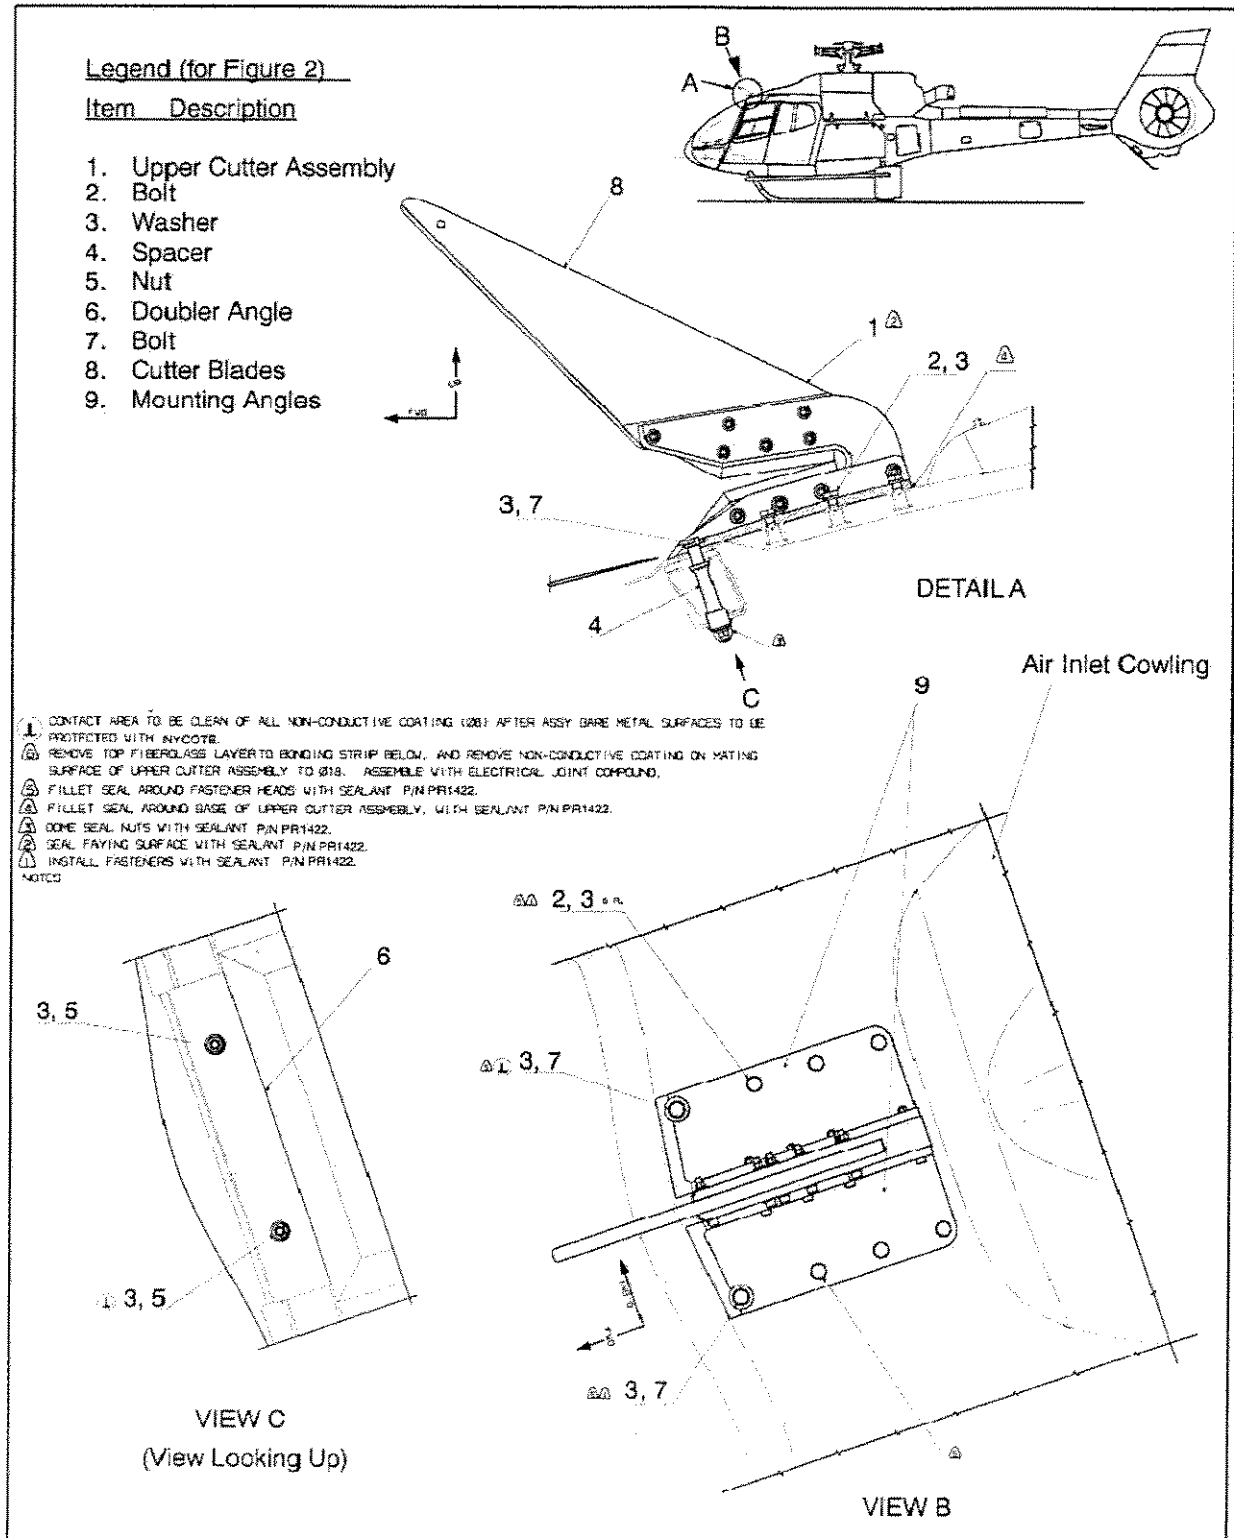
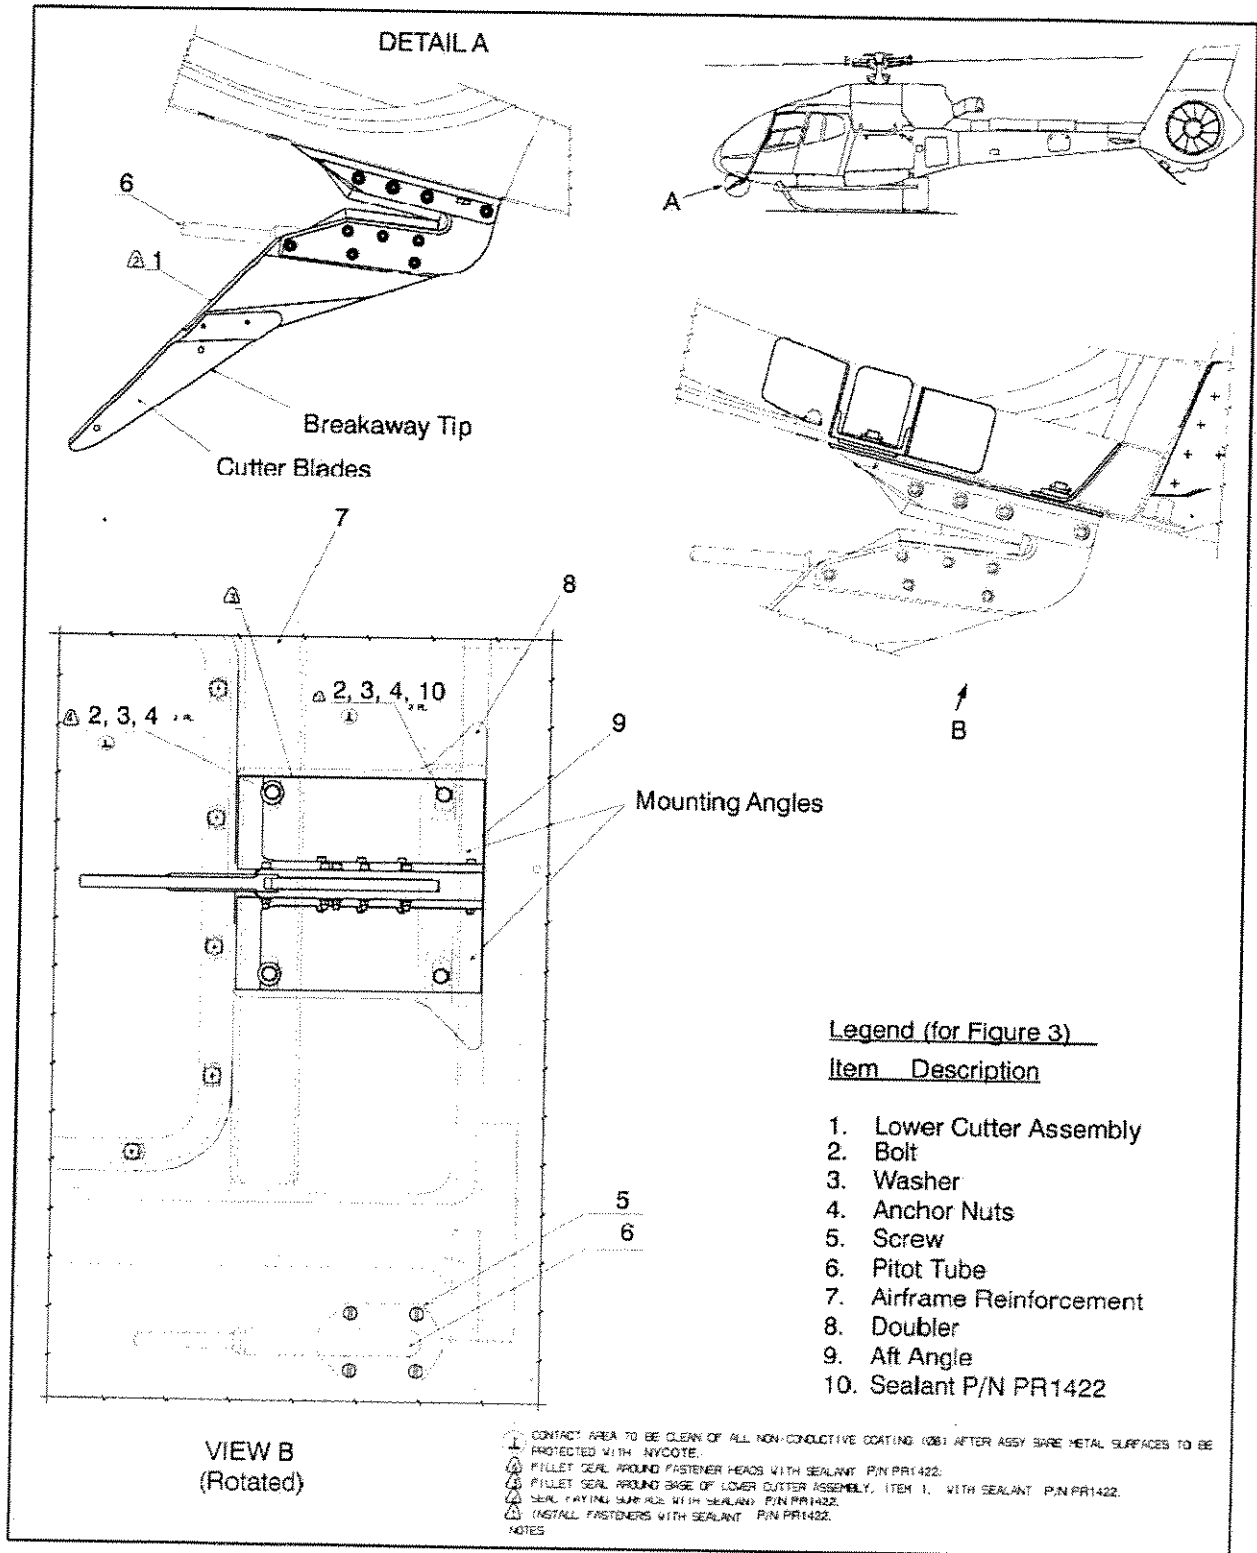

Figure 2 Upper Cutter Detachable Provisions
Figure 3 Lower Cutter Detachable Provisions
Refer to Figures 2, Upper Cutter Detachable Provisions, and Figure 3, Lower Cutter Detachable Provisions, for component removal and replacement.
- 1) Upper Cutter (Refer to Figure 2)
- a) Remove bolts (2) (6 places), and washers (3) (6 places) from the cabin roof.
- b) Remove FWD bolts (7) (2 places) and washers (3) (2 places) from the cabin roof. Remove nuts (5) (2 places), washers (3) (2 places) and spacers (4) (2 places) from between the roof and the carbon beam.
- c) Carefully remove the sealing compound and the upper cutter assembly (1).
- 2) Lower Cutter (Refer to Figure 3)
- a) Remove bolts (2) (4 places) and washers (3) (4 places).
- b) Carefully remove the sealing compound and the lower assembly cutter (1).
- b) Secure upper cutter assembly (1) into place using bolts (2) (6 places), and washers (3) (6 places) coated with sealant (P/N PR1422).
- c) Place spacer (4) (2 places) into carbon beam.
- d) Secure LHS using bolt (7) (1 place), washer (3) (2 places), and nut (5) (1 place). Dome seal nuts with sealant (P/N PR1422).
- e) Secure RHS using bolt (7) (1 place), washer (3) (2 places), and nut (5) (1 place). Dome seal nuts with sealant (P/N PR1244).
- b) Position the lower cutter assembly (1) on the doubler.
- c) Secure lower cutter assembly to aircraft using washer (3) (4 places), and bolts (2) (4 places).